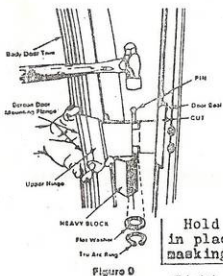

Figure 9
9. Remove upper hinge pin with care, install screen door hinge with motorhome hinge and insert new pin supplied. Support bottom of hinge with steel block and drive pin just enough to have free movement of screen door hinge. Place flat washer and tru arc ring on bottom of pin compressing against hinge for a snug fit. (See Figure 9).
10. With door open move screen door hinge against post and check for alignment. Screen door mounting flange of hinge (see fig 9) should be parallel to post. It may be necessary to bend screen door hinge. Cut motorhome door seal to clear screen door hinge. Close entrance door a few times to check for interference. (See Figure 9) Install bottom hinge as above.